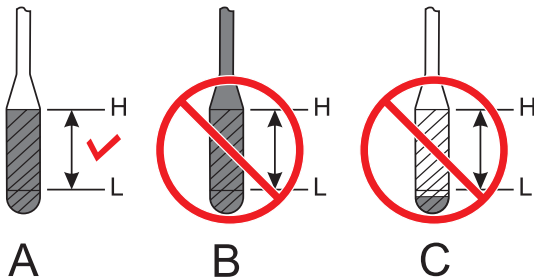

Figure 23. Engine Oil Level
3. Reinsert the dipstick, then remove the dipstick from its holder. Check the oil level shown on the dipstick (Figure 23).